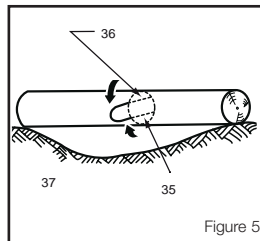

Figure 5
3. When the log is supported on both ends, cut 1/3 of that diameter from the top (over buck). Then make the finished cut by under bucking the lower 2/3 to meet other first cut. (Fig 5)